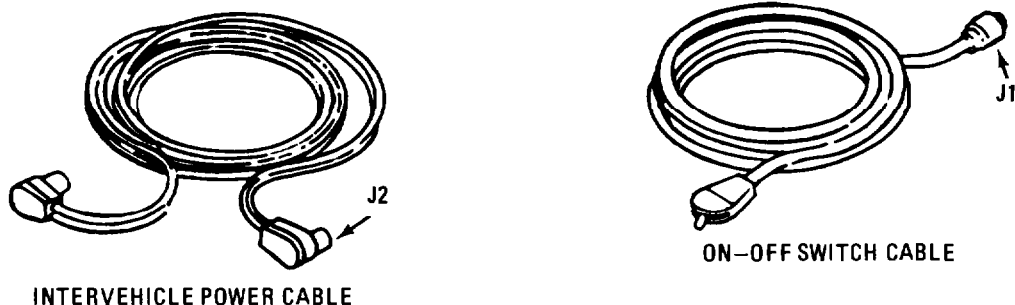

Figure 3-3. Pump Assembly Cables.
(1) inspect intervehicle power cable (figure 3-3) for damaged or corroded connectors.
(2) Clean connectors to obtain a good connection at J2 connector at Junction Box and connector and adapter at the vehicle receptacle.
(3) If cable is damaged, notify Organizational Maintenance for repair of cable assembly.
(1) Inspect ON - OFF switch cable (figure 3-3) for damage or corroded connectors, damaged or frayed cable, or damaged switch.
(2) If cable or switch are damaged, replace cable assembly.
(3) Remove connectors from J1 receptacle and vehicle receptacle. Install new cable in reverse order. Clean connectors to obtain a good connection at J1 connector at Junction Box. If connector is damaged, notify Organizational Maintenance for replacement.